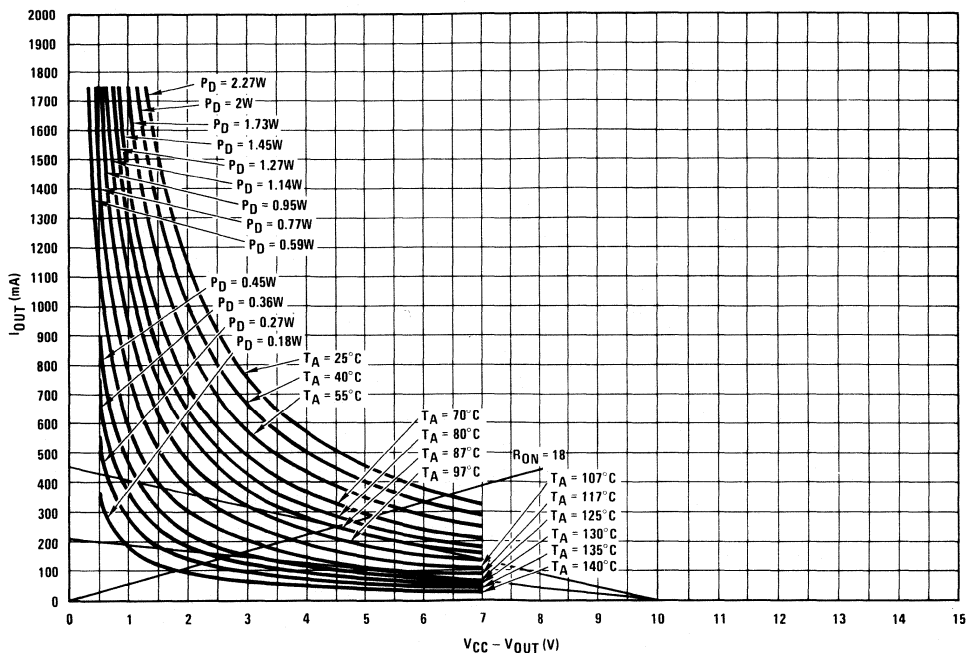

FIGURE 11
1. In Figure 11, draw the load line intersecting $R_{ON} = 18\Omega$ at $I_{OUT} = 250 \text{ mA}$.